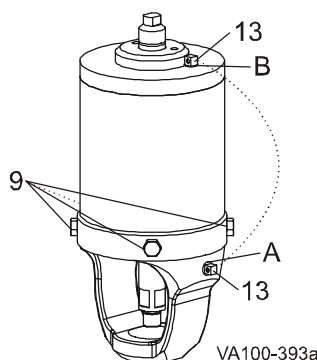

Figure 41 : Cap Screws and Vent Plug
7. Install the piston/spring assembly in the actuator cylinder and assemble them with cap screws (Figure 41, item 9).
8. Reverse the vent plug (Figure 41, item 13) as follows:
Air-to-Raise Actuator: The vent plug must be located on TOP of the actuator in Port B (Figure 41, item B).
Air-to-Lower Actuator: The vent plug must be located on the SIDE of the yoke in Port A (Figure 41, item A).